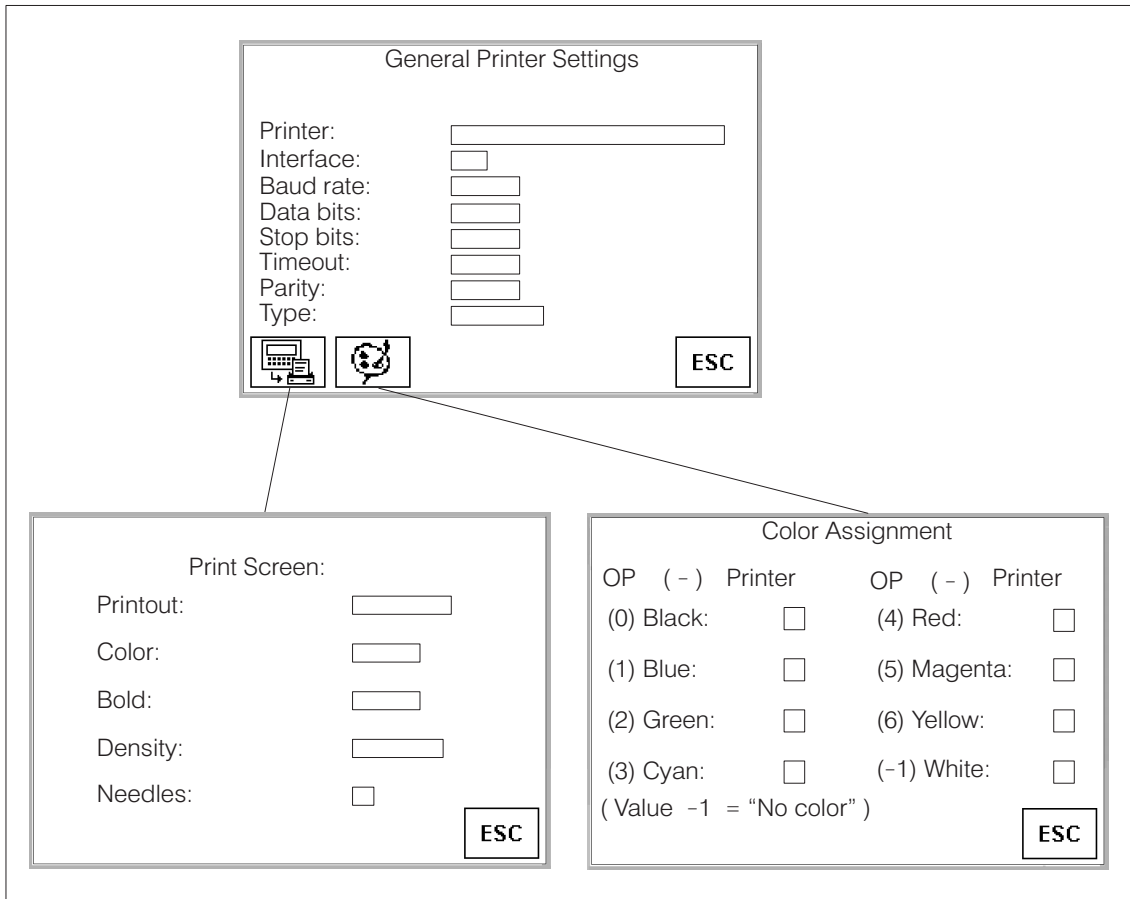

Figure 7-1 Standard screens for printer settings (example OP27)
- with the OP27 on standard screens *General Printer Settings*, *Print Screen* and *Assign Color* (Figure 7-1).